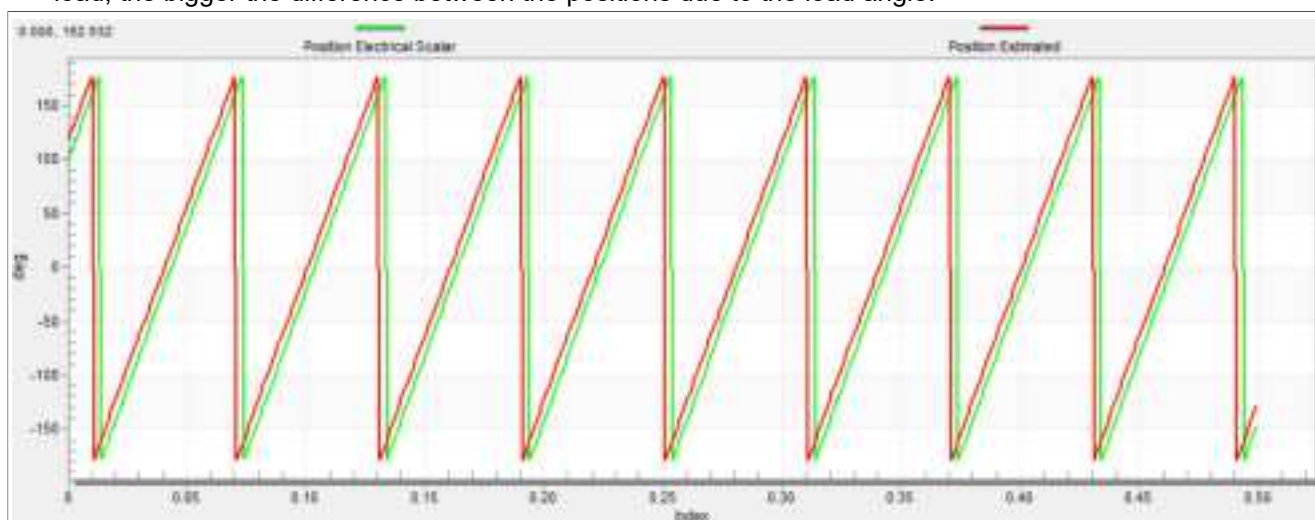

Figure 25. Generated and estimated positions
6. Select the "Position" recorder to check the observer functionality. The difference between the "Position Electrical Scalar" and the "Position Estimated" should be minimal (see Figure 25) for the Back-EMF position and speed observer to work properly. The position difference depends on the motor load. The higher the load, the bigger the difference between the positions due to the load angle.